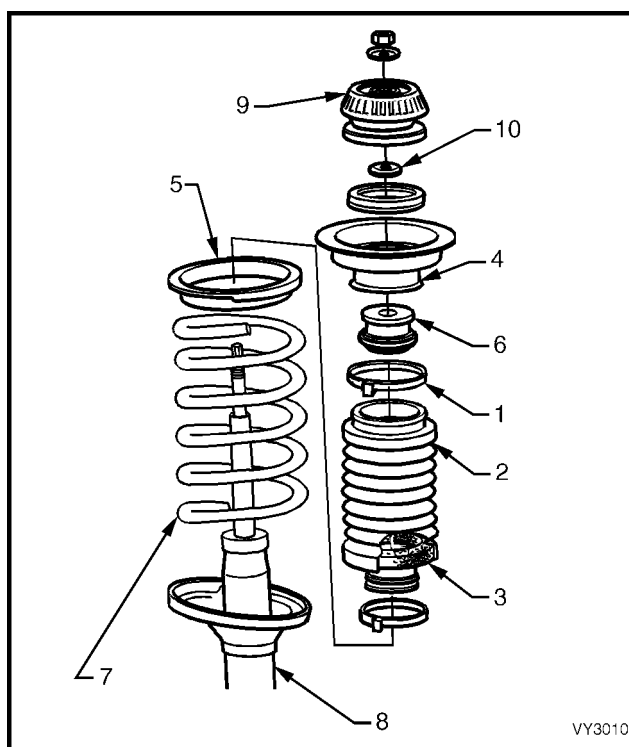

Figure 3B – 34
- 2 Install spring compressor Tool No. 180 or a commercially available equivalent, to the spring (refer to Figure 3B-32) and compress it.
- 4 Install the front strut upper bearing and support (9), refer to 3.6 Upper Strut Support Bearing and Mount in this Section.